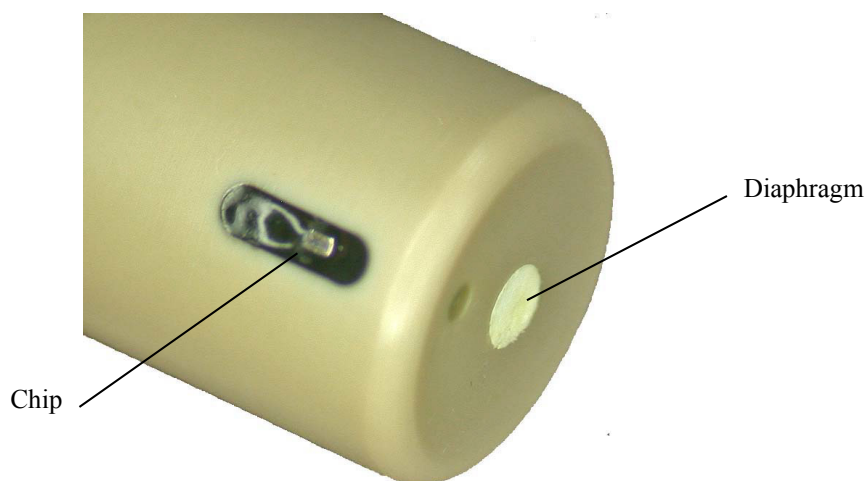

FIGURE 9-1. Tip of the CS526 probe
2. Scrub the surface of the chip and the diaphragm (FIGURE 9-1) with a soft toothbrush and water with a mild detergent (see Caution).